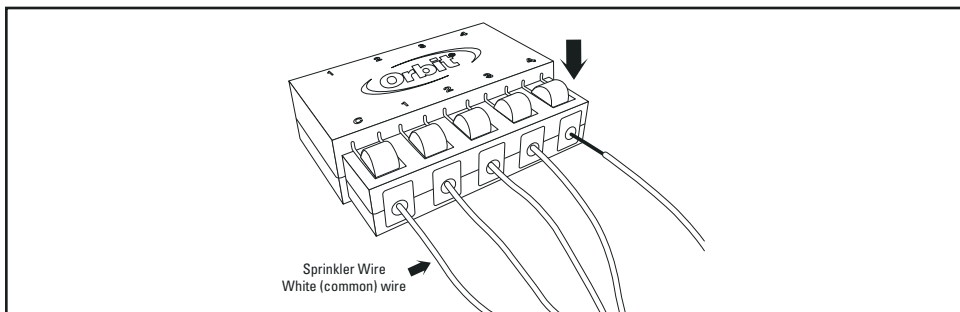

Figure 5: Inserting Sprinkler Wire
Step 4. While holding the Snap-Wire™ junction box, firmly press down on the rounded tab (marked C on the Snap-Wire™ box) and carefully penetrate the round, indented, gray rubber membrane area with the white (common) sprinkler wire. [See Figure 5]